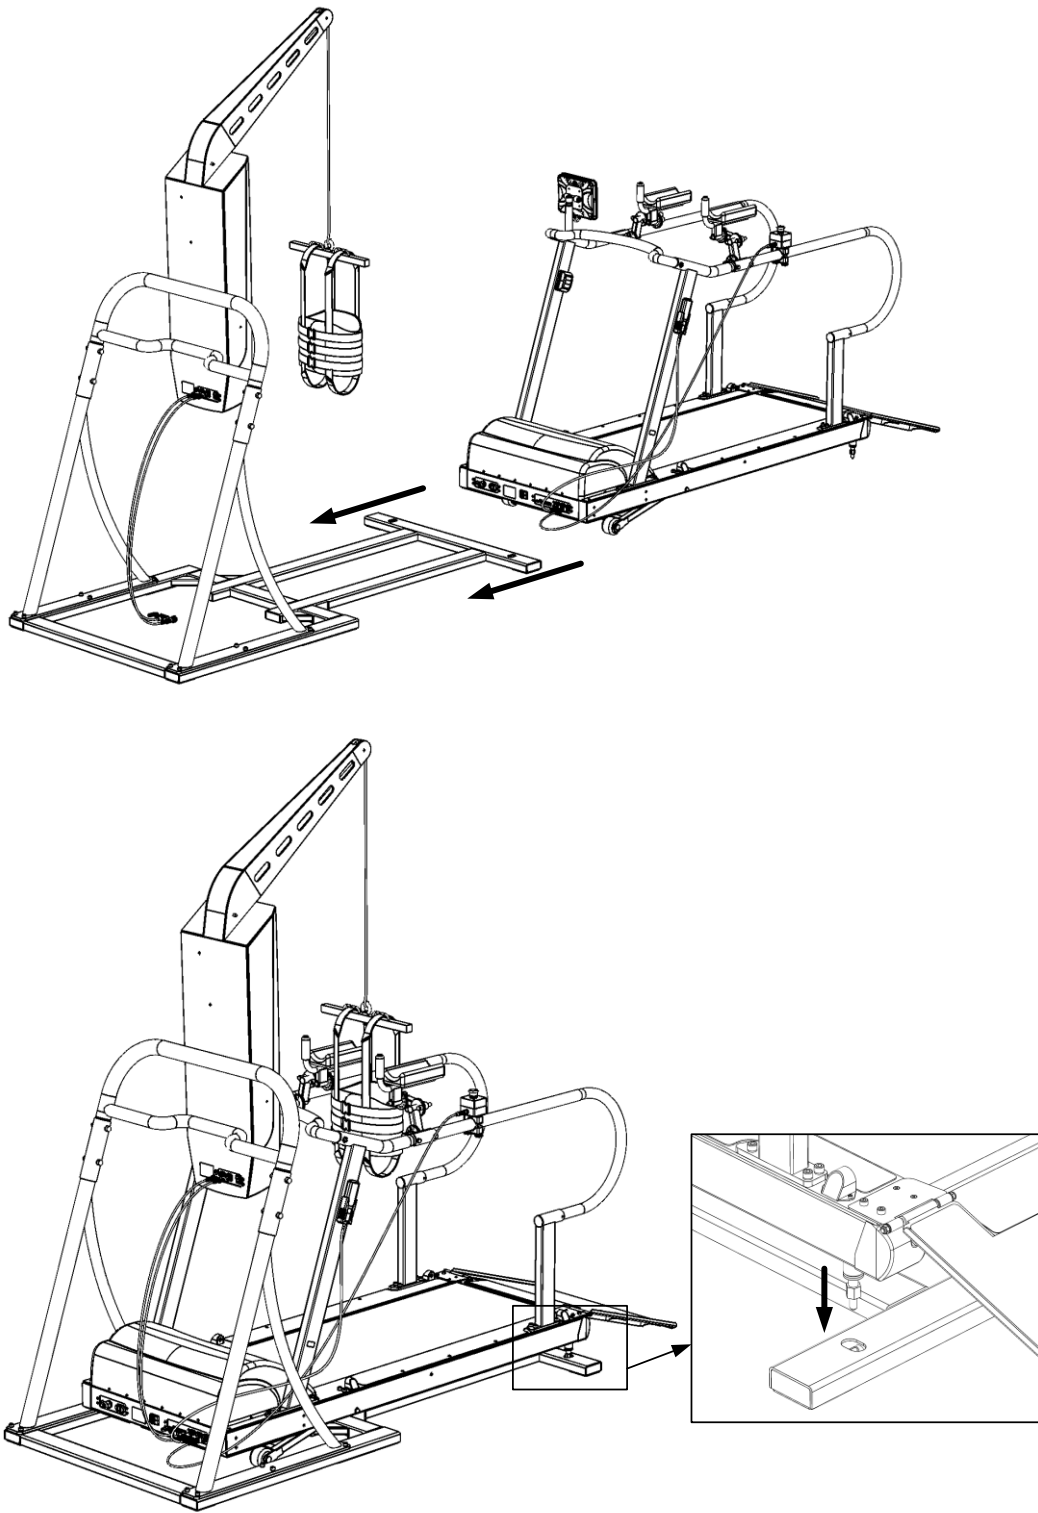

Figure 21 - Body weight support system installation
- Install the assembled treadmill of the body weight support system on the body weight support system, as shown in Figure 21, while the rear legs should be installed in the holes on the body weight support system.